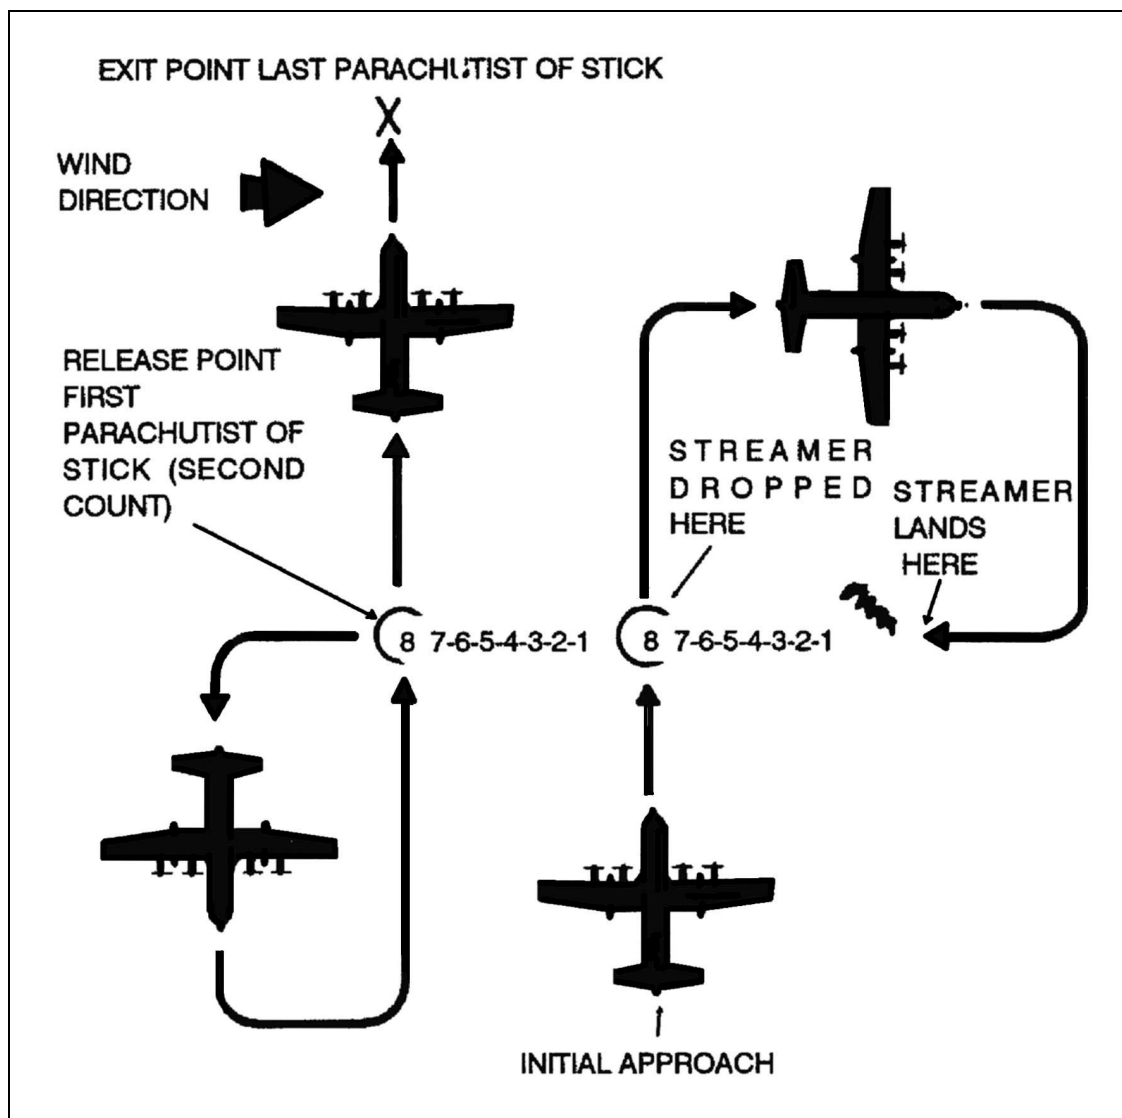

Figure 6-11. Wind streamer vector count.
d. If the RP falls off the DZ, hiding the markings, or if the GTA operator cannot see the aircraft, change the parachute drop to a jumpmaster-directed release operation using the wind streamer vector count (Figure 6-11, page 6-25).